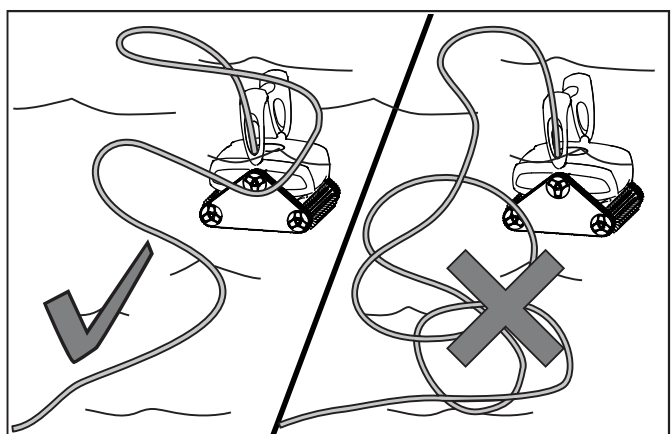

Figure 4. Spread Floating Cable Over the Pool
4. Spread the floating cable over the pool, making sure there are no kinks or coils in the cable. Allow enough floating cable for the cleaner to reach the farthest point of the pool (Figure 4).